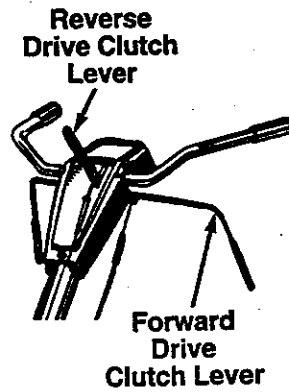

FIGURE 4
The throttle control lever is located on the engine. It controls the engine speed and stops the engine. See figure 4.
The forward drive clutch handle is located beneath the tiller handle. See figure 4. Squeezing the handle up against the tiller handle engages the forward drive. Release the handle to stop the forward motion.
The reverse drive clutch lever is located in front of the handle panel. See figure 4. Pull the lever to the rear to move the tines in reverse. Release the lever to stop the reverse drive.
2. Make certain the forward clutch handle is in the neutral position (released). See figure 4.